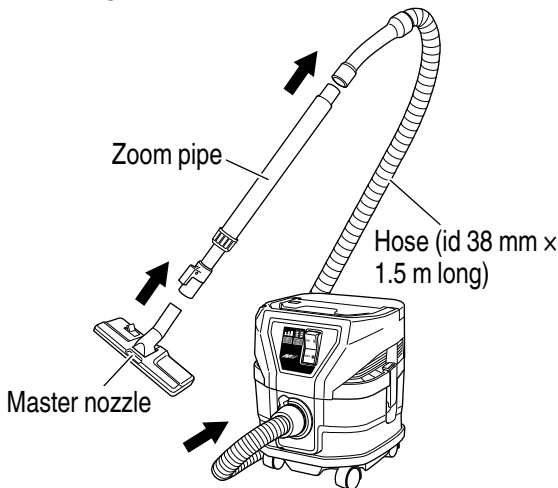

Fig. 19
- (1) Connect in order of Hose (id 38 mm × 1.5 m long), zoom pipe and Master nozzle. Connection is done by pressing in the direction of the arrow. The suction mouth for crevices can also be attached depending on the application. (see Fig. 19)